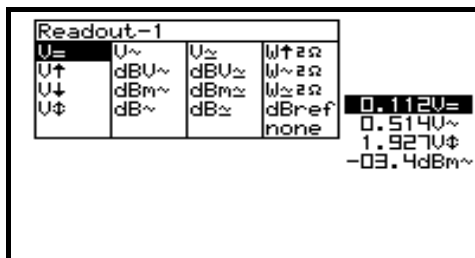

Fig 17
1. Pressing the 'meter'-key selects the first readout location. (Fig. 17)
2. Press the cursorkeys to highlight the desired readout function for meter1 readout. (Fig. 17)